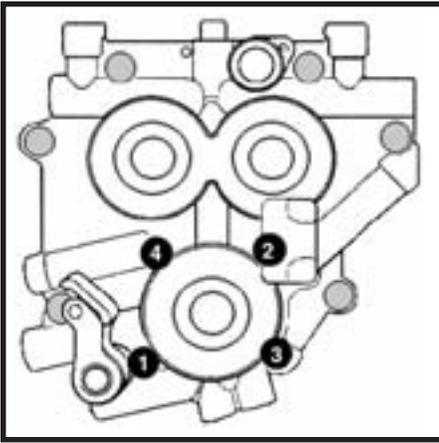

Figure 1
11. Following sequence shown, alternately loosen and remove oil pump bolts. **See Figure 1.**
9. Install oil pump mounting bolts with a drop of Loctite Threadlocker 242 or 243 (blue) according to procedure found in factory service manual: Gently bottom screws, then back them out $\frac{1}{4}$ turn. Center oil pump by rotating engine by hand while snugging down screws. Alternately tighten bolts to 95 in-lbs. torque in sequence shown. **See Figure 1.**